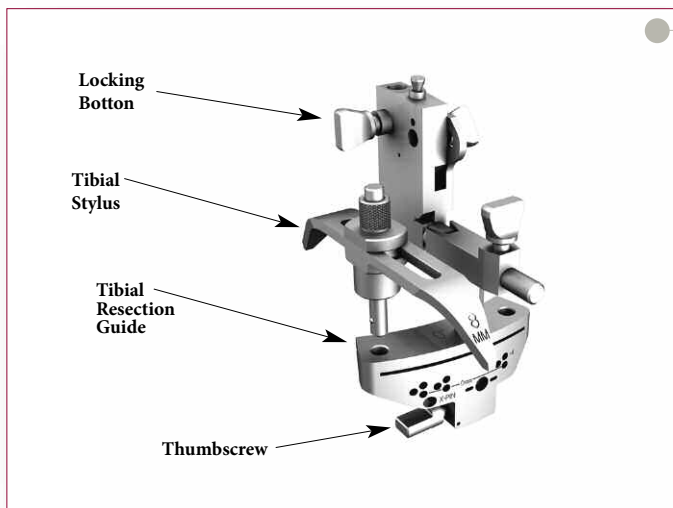

Figure 65
- Assemble the Tibial Stylus onto the Tibial Resection Guide by depressing the button on the top of the Tibial Stylus, inserting the stylus into either the medial or lateral hole on the top of the Tibial Resection Guide, and releasing the button to lock the stylus into place (Figure 65).